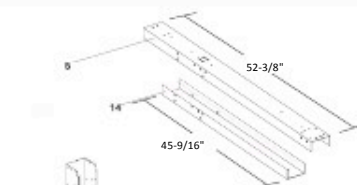

Fig. 11
A) Start by laying out the under box channels so that the open sides of each under box channel is facing up. Then slide the strap end channel over the top of the under box channels so that they form a tube. Be sure that the holes in both channels are aligned, but do not bolt them together yet. See Fig. 11